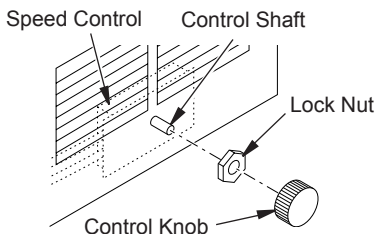

Figure 4 - Attaching Speed Control
12. Place control knob provided on plastic control shaft of speed control (see Figure 4).
13. Locate the plastic hole plug installed in the 3/8" diameter opening in the lower right side of the firebox front panel (see Figure 4). Remove the plastic plug and discard.
5. Place speed control against inner wall of front panel, pushing the plastic control shaft forward through the opening (see Figure 4).
6. While supporting speed control, secure control shaft with lock nut by pushing and turning lock nut with pliers clockwise until it is tight against front panel. Place control knob provided on shaft (see Figure 4).